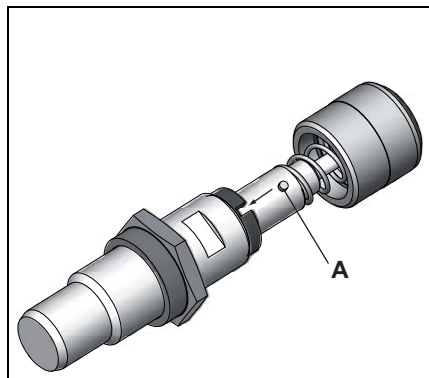

Fig. 8 Positioning pin latching in
6. Slide in the pick up insert **624.1** and spring **624.2** while ensuring that the sleeve is clean and the position of the positioning pin **A** is correct. This must be latched in the groove of the indexing sleeve **626.5**, see Fig. 8, page 30.